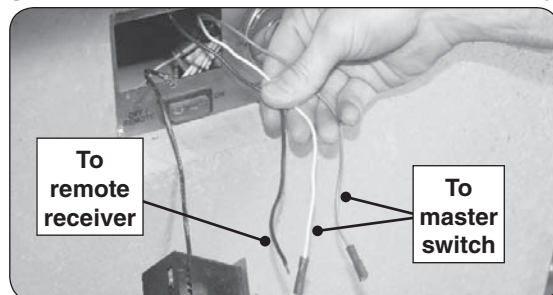
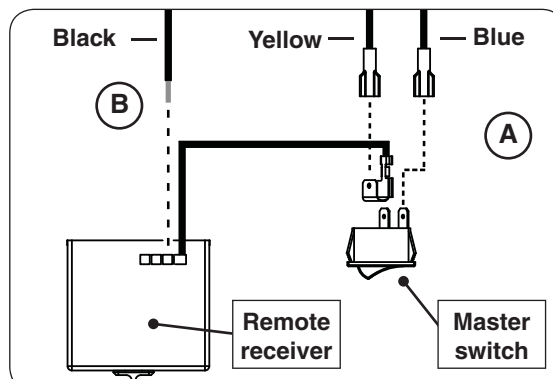

Fig. 27-2 Locate 3 exposed wires
Fig. 27-3 Connect receiver & switch wires
6. Locate the 3 exposed wires and connect to the remote receiver and master switch (see Fig. 27-2 and Fig. 27-3).